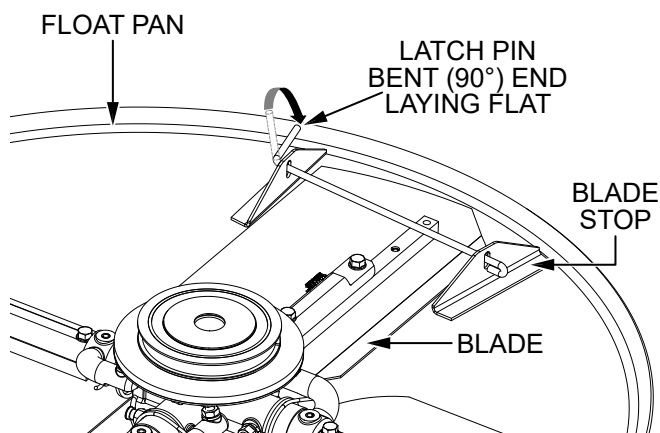

Figure 18. Latch Pin Placement
4. After it has been routed through the blade stop holes, rotate each latch pin so the end that is bent approximately 90 degrees lays flat on the surface of the float pan. See Figure 18.